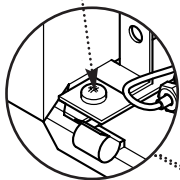

Fig. 42
9. Remove the two screws retaining the sides of the fire combustion box to the fire base tray (Fig. 42).